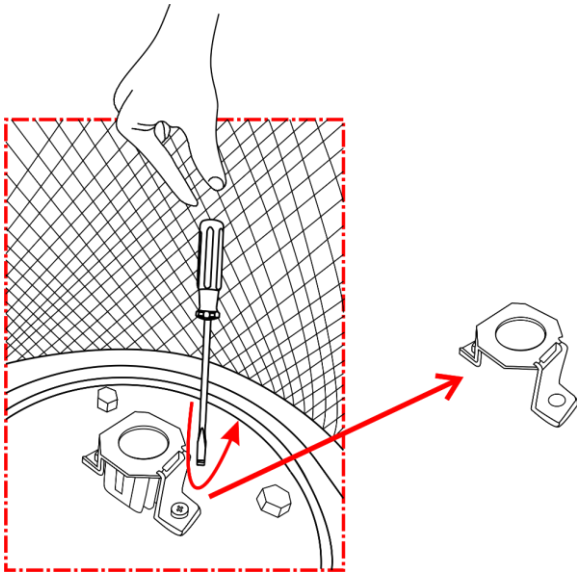

Fig. 06
- 05) Disconnect the lamp holder at the bottom of the fixture (Fig.06).